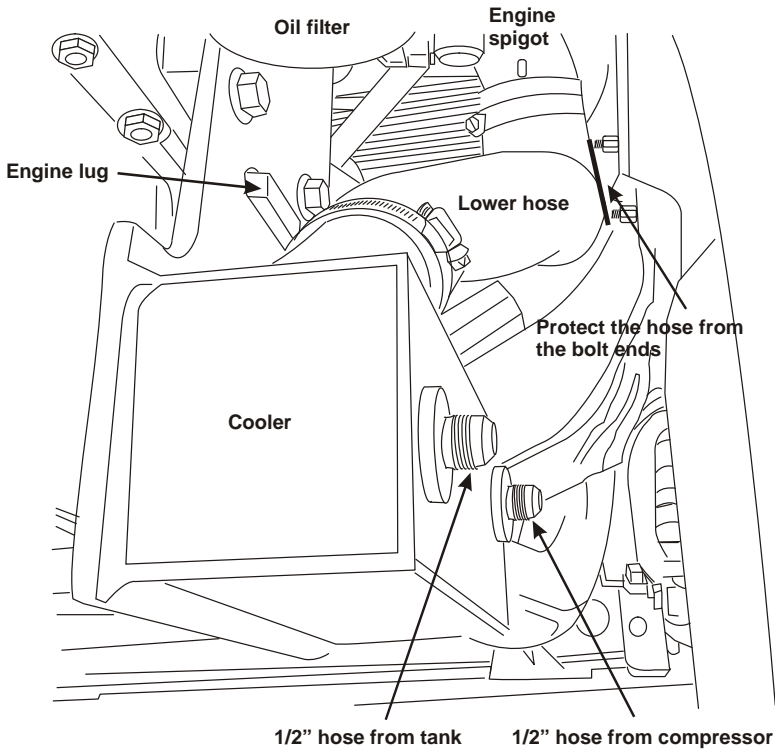

Figure 3.1
- As the cooler is maneuvered into place, push the hose spigot on the top of the cooler into the OEM reversed hose (Figure 3.1).
- Align the radiator hose to clear the engine frame cross beam bolts (Figure 3.1) and tighten the clamps.
- Connect the 90 degree end of the 1/2 inch hose from the tank to the rear fitting on the cooler (Figure 3.1) and tighten the fitting.